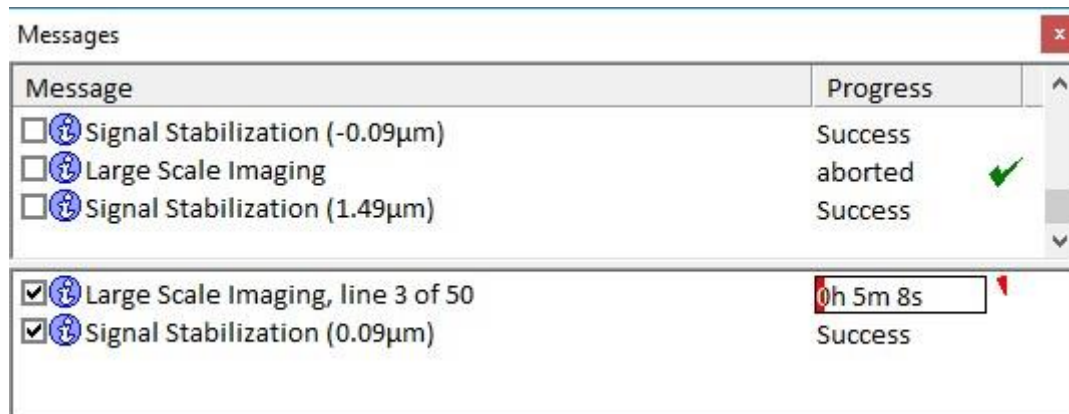

Figure 3: Messages window
11. You can observe the progress of the Signal Stabilization in the messages window. (Figure 3) If it fails at one time, it will try again at each following stabilization step. (Pointing with the mouse at the message gets you a hint, why it did not work.)